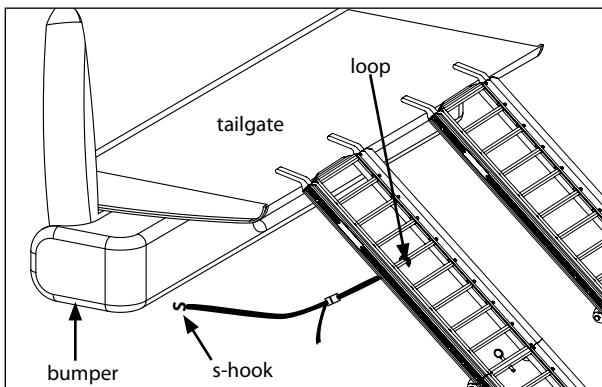

Figure 2
3. Attach the two provided securing straps to the fifth rung away from the tailgate end (one on each ramp). Wrap the loop end of each strap around the center brace and thread the buckle and "S" hook end through the loop. This permanently attaches straps to the ramp. **SEE FIGURE 2.**